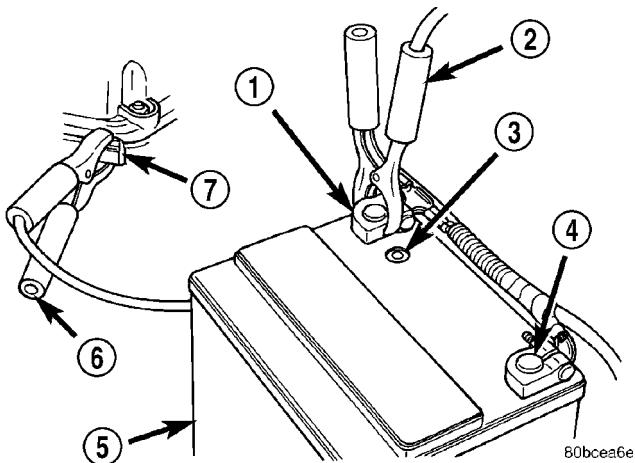

Fig. 6 Jumper Cable Clamp Connections
(2) When using another vehicle as a booster source, park the booster vehicle within cable reach. Turn off all accessories, set the parking brake, place the automatic transmission in PARK or the manual transmission in NEUTRAL and turn the ignition OFF.
(3) On disabled vehicle, place gear selector in park or neutral and set park brake. Turn off all accessories.
(4) Connect jumper cables to booster battery. RED clamp to positive terminal (+). BLACK clamp to negative terminal (-). DO NOT allow clamps at opposite end of cables to touch, electrical arc will result. Review all warnings in this procedure.
(5) On disabled vehicle, connect RED jumper cable clamp to positive (+) terminal (Fig. 6). Connect BLACK jumper cable clamp to engine ground as close to the ground cable attaching point as possible.
(6) Start the engine in the vehicle which has the booster battery, let the engine idle a few minutes, then start the engine in the vehicle with the discharged battery.